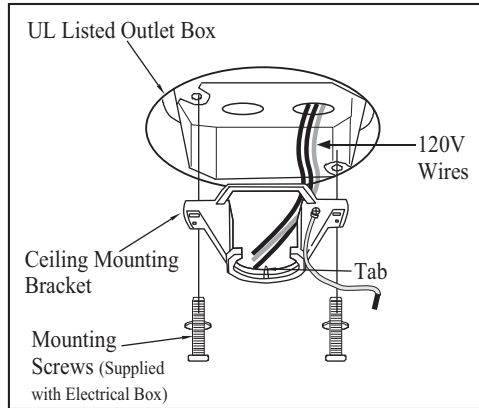

Figure 6
1. Pass the 120-volt supply wires through the center hole in the ceiling mounting bracket as shown in Figure 6.
2. Install the ceiling mounting bracket on the outlet box with the screws and washers provided with your outlet box (Figure 6).